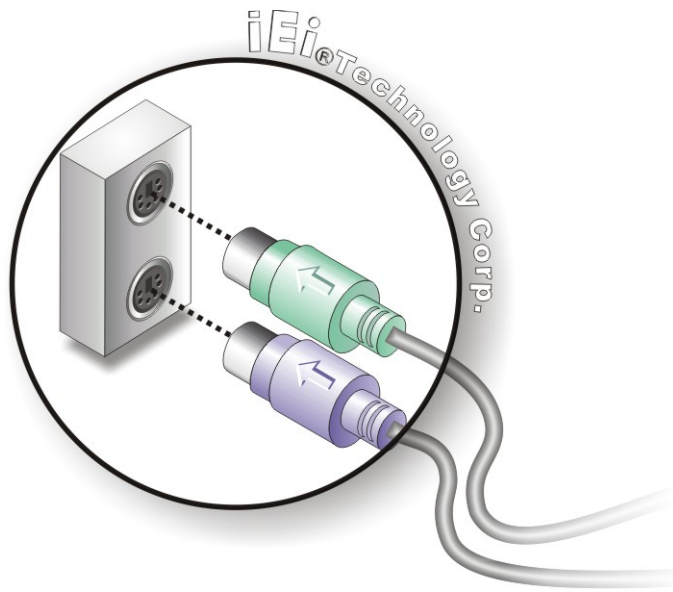

Figure 4-15: PS/2 Keyboard/Mouse Connector
Step 2: Insert the keyboard/mouse connector. Insert a PS/2 keyboard or mouse connector into the appropriate PS/2 connector on the external peripheral interface connector. See Figure 4-15.